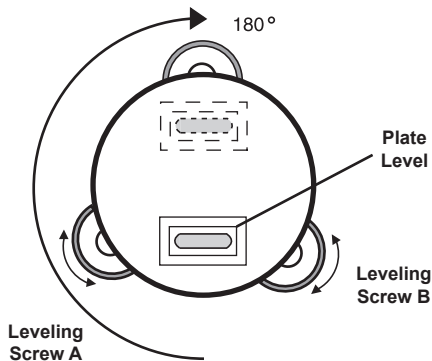

Figure A-2. Checking the Plate Level
1. Place the plate level parallel to a line running through the center of two leveling screws; for example, leveling screws A and B (Figure A-2).
3. Rotate the instrument 180° or 200g around the vertical axis and check bubble movement of the plate level (Figure A-2). If the bubble has been displaced, then adjust the plate level as seen in “Adjusting the Plate Level” on page A-4.
3. Rotate the instrument 180° or 200g around the vertical axis once more and check bubble movement (Figure A-2 on page A-3). If the bubble is still displaced, then repeat the adjustment.
3. Rotate the instrument 180° or 200g around the vertical axis once more and check the center mark (Figure A-2 on page A-3). If it aligns to the point, further adjustment is not required. Otherwise, repeat the adjustment.